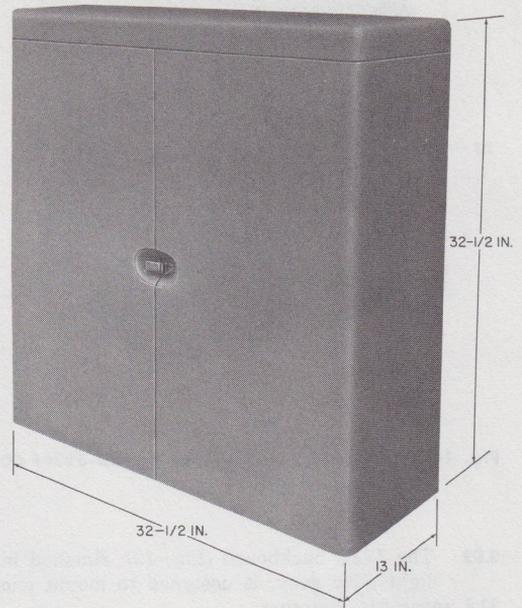

Fig. 17—Floor-Supported Cabinet Per ED-69488-50, Group 1
2.18 The floor-supported cabinet per ED-69488-50, Group 1 (Fig. 17) is a steel cabinet, light olive gray in color, designed to take one 26A apparatus mounting and ED-69366-50, Group 3